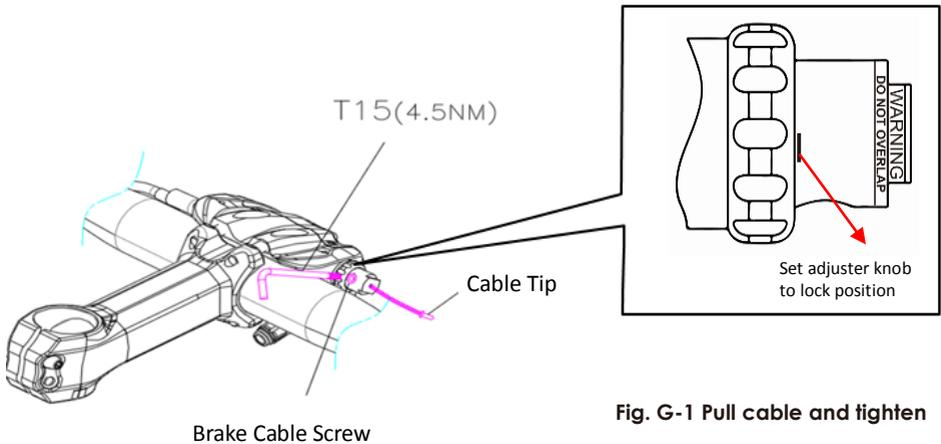

Fig. G-1 Pull cable and tighten
- Set the adjuster knob to the lock position when fixing the cable (Fig. G-1)